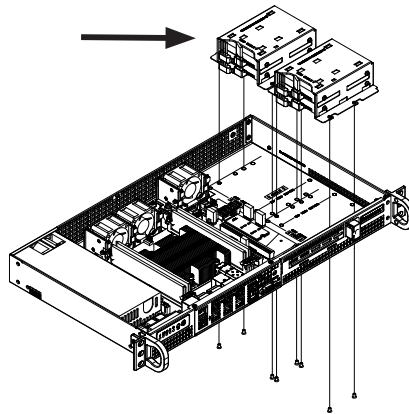

Figure 3-4. Four 2.5" HDDs in Two Brackets, No Expansion Card
2. Place the hard drives and brackets into the chassis as illustrated in Figure 3-4. Orient two or more drives with the cable connections facing the inside of the chassis.